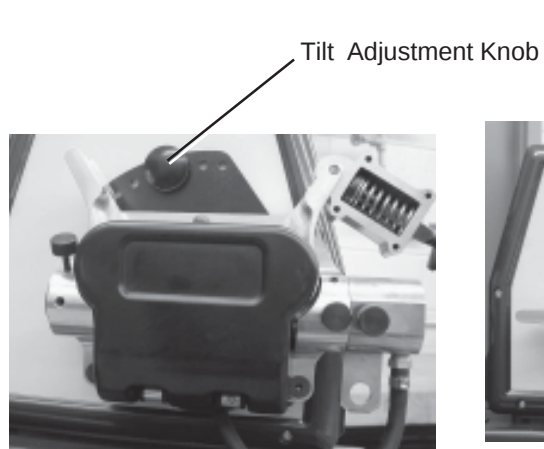
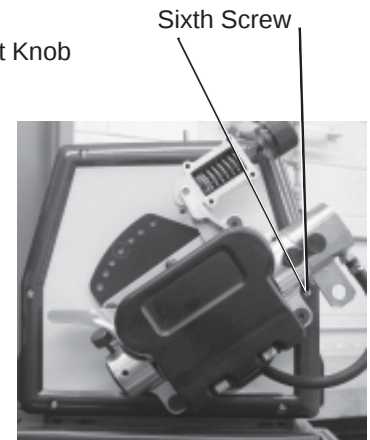

Figure 2
Figure 3
- c. For access to the panel screw behind the drive stand, remove the "Tilt Adjustment" knob above the drive stand and tilt the drive stand to the top position (see Figure 2). Remove the sixth screw (see Figure 3).